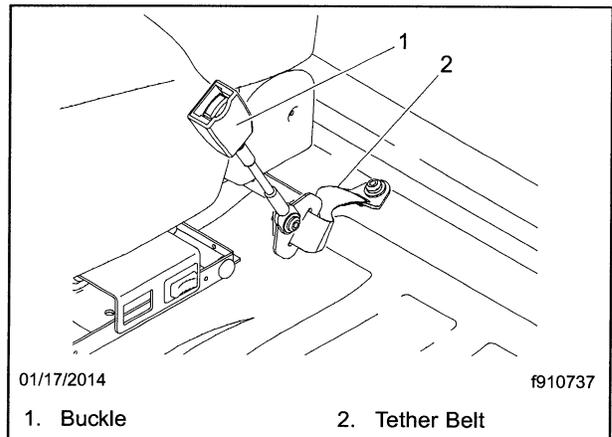

Fig. 11, ICP-Bar-Mounted Buckle
- Air suspension seats have buckles mounted to the ICP (intermediate-connection-point bar or bracket), with a tether belt attached to the cab floor. See **Fig. 11**.
1. Disconnect the buckle from the seat by removing the capscrew from the end of the intermediate-connection-point (ICP) bar (or bracket); see **Fig. 11**. Remove and discard the buckle.